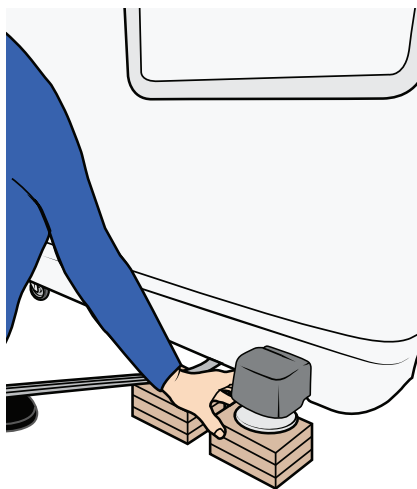

Figure 22
15. Remove the woodblocks one by one until the bathtub rest on the floor. See Figure 22.